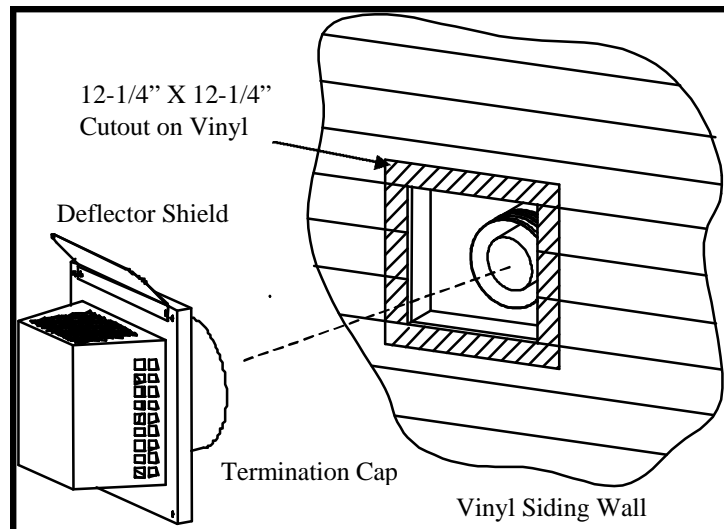

Figure 18 Horizontal Termination Cap on a Vinyl Siding Wall
- Attach and secure the termination to the last section of the adjustable pipe. The termination cap should pass through the wall firestop from the exterior of the building. Make sure the termination cap is installed following the arrow direction. The termination cap slides onto the last vent section with at least of 1-1/2" overlap and is fastened with a minimum of three (3) #8 X 5/8" sheet metal screws. Drive these screws through the outer pipe of the termination cap and through the outer pipe of the last vent pipe section.
- Attach the deflector shield to the termination cap with the two (2) #6 X 1/2" screws provided as shown in Figure 18.
- Attach the termination cap to the exterior wall using four (4) #8 X 3" screws provided.